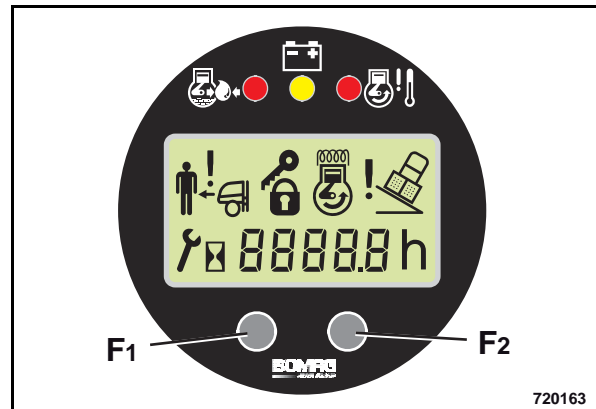

Fig. 80
- Keep both function keys F₁ and F₂ (Fig. 80) in the display module depressed for two seconds.